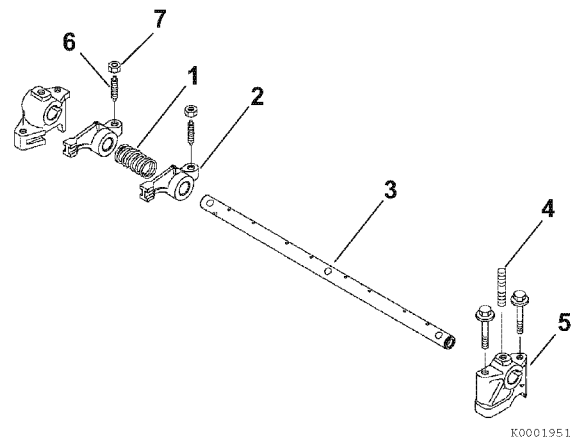

Figure 6-6
1. Remove the rocker arm shaft alignment stud (4, **Figure 6-6**) from support (5, **Figure 6-6**).
2. Slide the rocker arm shaft (3, **Figure 6-6**) out of the rocker arm supports (5, **Figure 6-6**), springs (1, **Figure 6-6**), and rocker arms (2, **Figure 6-6**).
3. Remove the valve adjusting screw (6, **Figure 6-6**) and the lock nut (7, **Figure 6-6**) from the rocker arms.